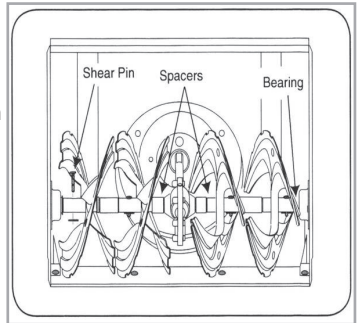

Fig.26
- The auger are secured to the spiral shaft with two shear pins and cotter pins. If the auger should strike a foreign object or ice jam, the snow thrower is designed so that the pins may shear. See Figure 26.